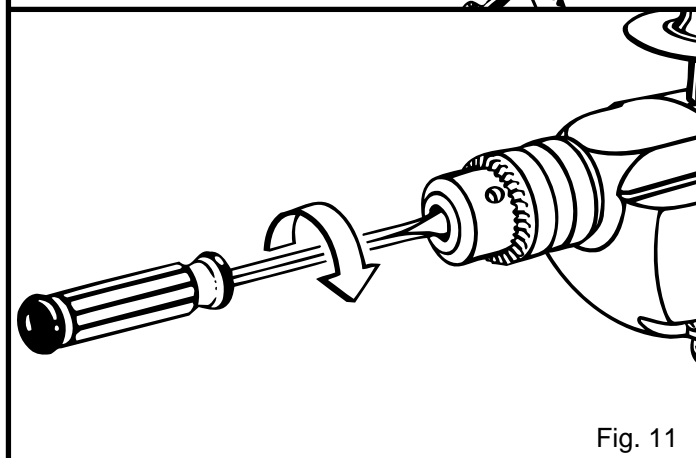

Fig. 11
4. Open the chuck jaws and remove hex key wrench. Remove the chuck screw by turning it in a clockwise direction. See Figure 11.
**NOTE:** The chuck screw has left hand threads. See Figure 11.